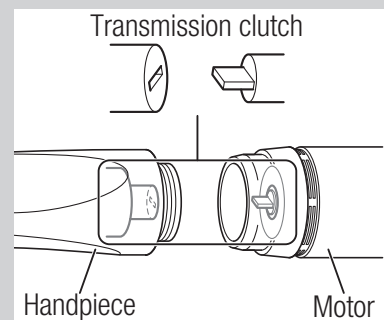

Fig. 5
- When attaching the Handpiece to the motor, the screw-in may suddenly become tight. This is because the motor transmission clutch of the Motor Handpiece is misaligned. In this case, forcibly tightening the screw will cause the motor to break. Loosen the screw, rotate the chuck of the handpiece or the bur to align the motor transmission clutch, and then tighten the screw again (Fig. 5).